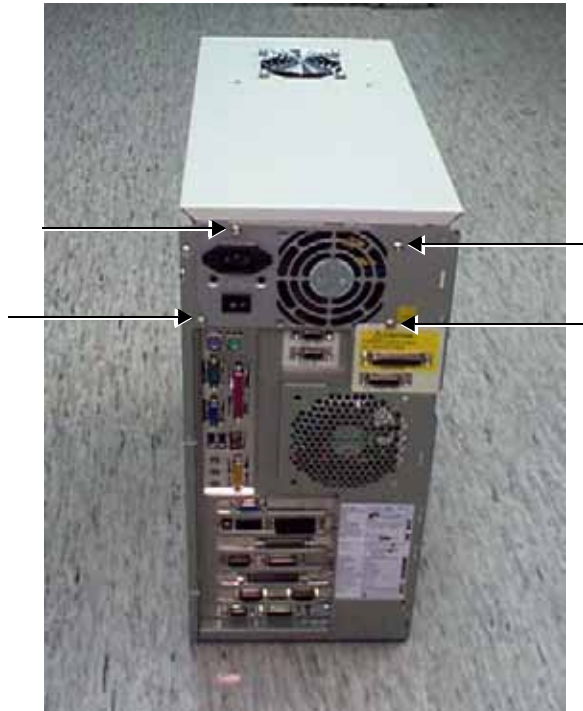

Figure 8-77 BEP2 Rear View
- 8.) From the rear of the BEP2, remove the four screws that fasten the power supply in position on the BEP, as shown in Figure 8-77.
- 16.) At the rear of the BEP2, return and loosely tighten the four screws that fasten the power supply in position on the BEP, as shown in Figure 8-77 on page 8-91.